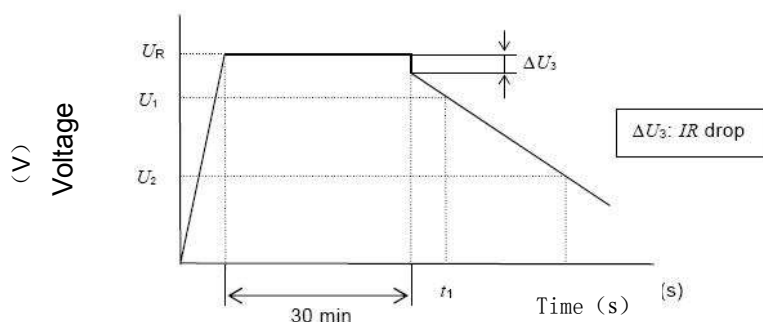

Figure 2 – Voltage characteristic between capacitor terminals
- ◎ Setting the direct current voltage of constant current/constant voltage power supply as rated voltage (UR)
- ◎ Unless otherwise specified in the individual standards, measure the time t1 and t2 where the voltage between capacitor terminals at the time of discharge reduces from U1 to U2 as shown in Figure 2, and calculate the capacitance value by the following formula: